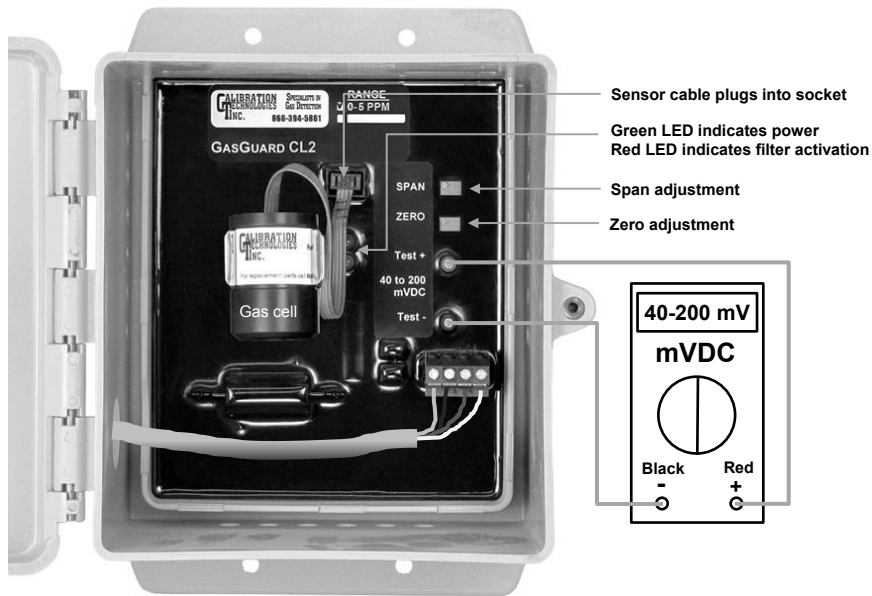

Figure 3: Sensor board components and zero/span adjustments
- Adjust the zero pot until the sensor outputs 40 mV from Test [-] to Test [+] (see **Figure 3**).
- Once the output signal has peaked (or five minutes maximum) adjust the span pot until the correct output is achieved (see **Figure 3**).